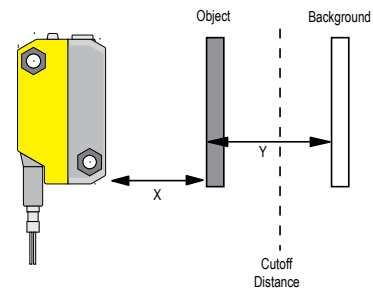

Figure 3. Set cutoff distance in front of the fixed background
3. Turn the adjustment pot **counter-clockwise** until the yellow indicator turns **on**. This places the cutoff distance in front of the fixed background (see figure 3).